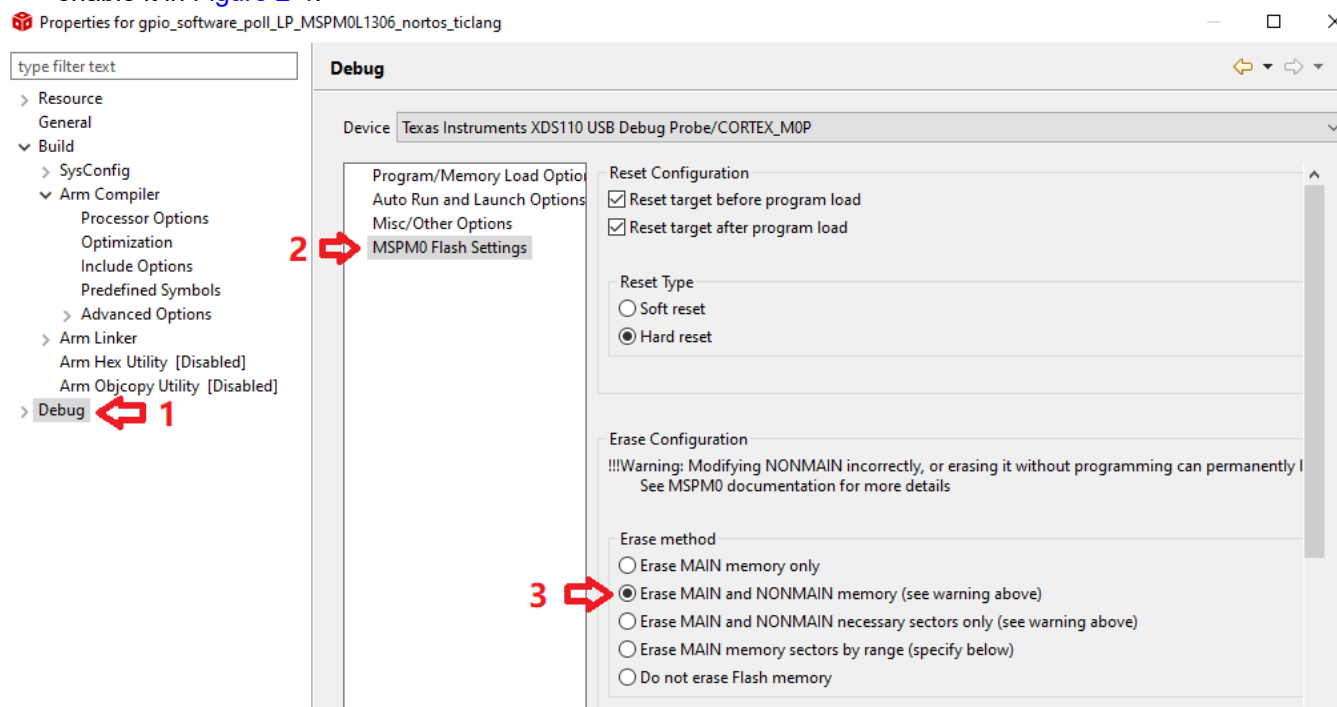

Figure 2-4. Enable NON-MAIN Flash Erase
- Build the project in Code Composer Studio™ (CCS) or IAR or Keil and then download the code into flash. The important thing to download the image is to enable NON-MAIN flash erase. For example in CCS to enable it in Figure 2-4.